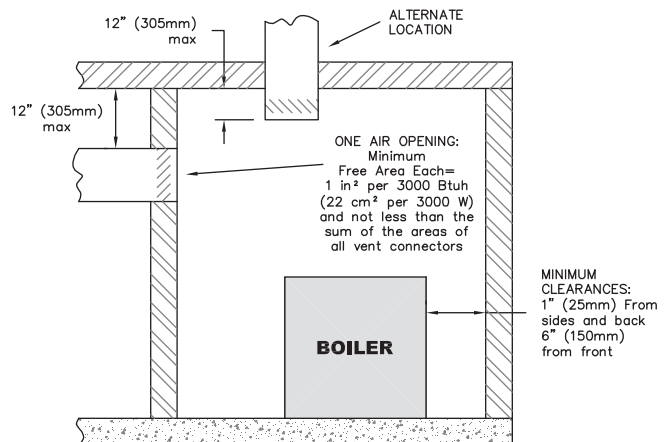

Figure 1.6: Air Openings – All Air from Outdoors through One Opening
b. **One Permanent Opening Method:** Provide one permanent opening beginning within 12 inches (305 mm) of the top of the space. The opening shall communicate directly with the outdoors, communicate through a vertical or horizontal duct, or communicate with a space that freely communicates with the outdoors. The opening shall have a minimum free area of 1 in² per 3000 Btu/hr of total rated input for all appliances in the space and not less than the sum of the cross-sectional areas of all vent connectors in the space. The gas-fired equipment shall have clearances of at least 1 inch (25 mm) from the sides and back and 6 inches (150 mm) from the front of the appliance. See Figure 1.6 for this arrangement.